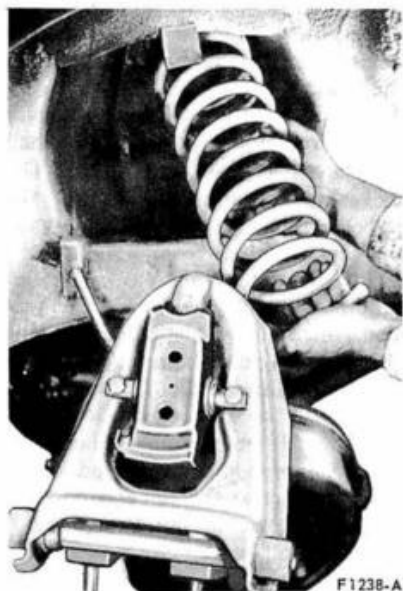

FIG. 10—Removing or Installing Spring—Mustang
9. Remove the upper suspension arm inner shaft retaining nuts from the engine compartment, and pull the arm, shaft, and retaining bolts away from the underbody. Measure and note the total shim thickness at each inner shaft retaining bolt. Swing the upper arm and shaft assembly 180° out to provide clearance for spring removal (Fig. 10).
11. Remove the components of the spring compressing tool; then, remove the spring as shown in Fig. 10.
1. With the upper arm turned out of the way for clearance, install the spring in the housing (Fig. 10).
7. Release the spring compressor tool and remove the tool from the spring. Then, remove the spring from the car (Fig. 10).